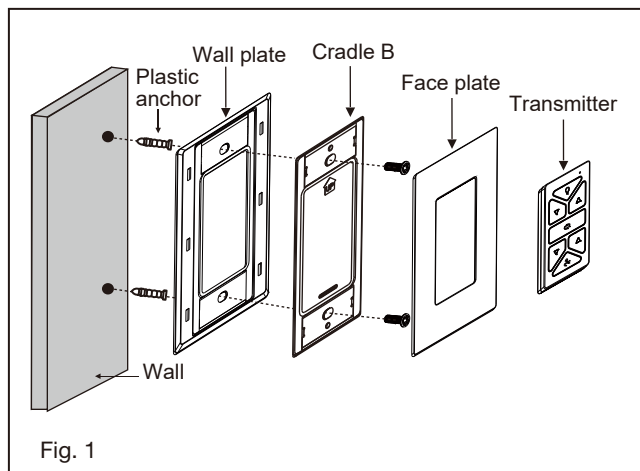

Fig. 1
- 1 While holding the LED assembly under your fan, make the polarized plug connections: (Fig. 1)
- 2 Raise the LED assembly against the fan and turn clockwise until snug, DO NOT OVERTIGHTEN. (Fig. 1)
- 1 Select a desired location. Use the wall plate to mark the location of the mounting holes. Plastic wall anchors or mounting screws are needed for this application. (Fig. 1)